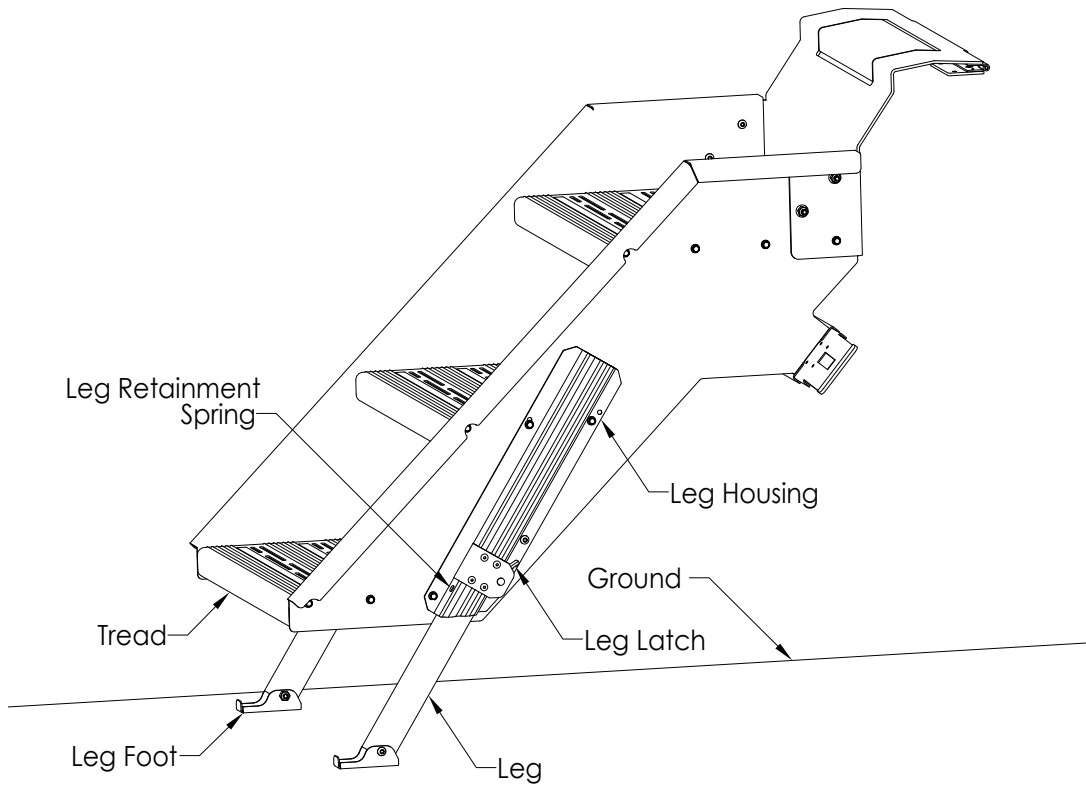

Figure 4
1. To remove, open entry door(s) and pull both hinge pins inward from hinge plates as shown in **Figure 4**.